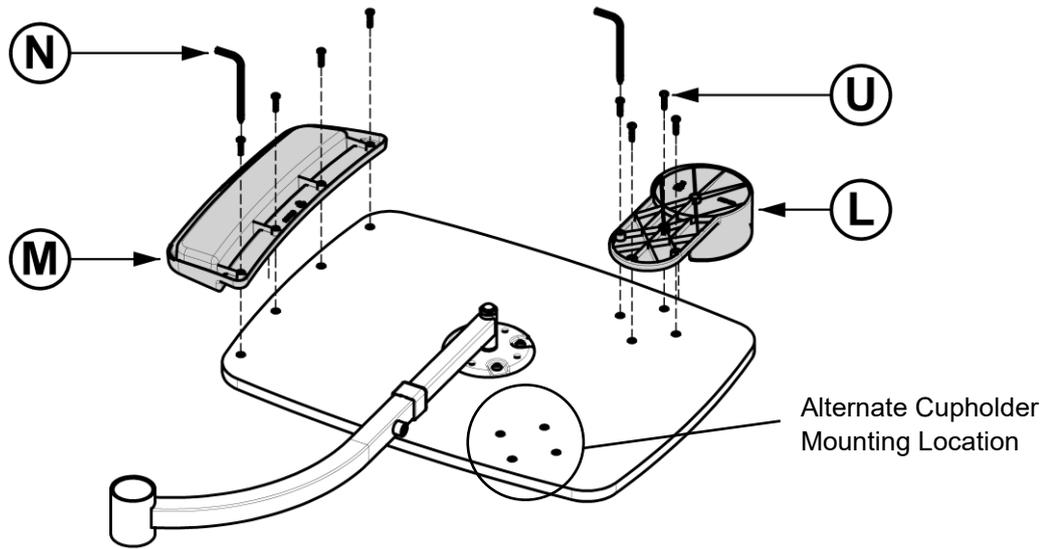

FIGURE 26
26. Secure Cupholder **H** and Utensil Organizer **M** to Tray **G** using Screws **U** (4x each) and Tool **N**, as shown in *FIGURE 26*.